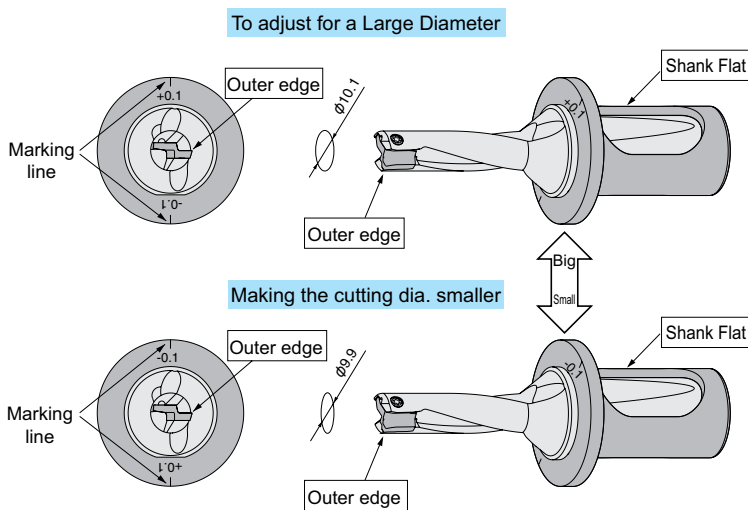

Fig.1 Diameter Adjustment Method (e.g.) $\phi 10$ Drill
- ① Set the outer edge horizontally with 90° to making line on the sleeve. (Fig.1)
- ② To adjust to larger diameter, align the +0.1 mark on the sleeve with the flat on the drill shank.